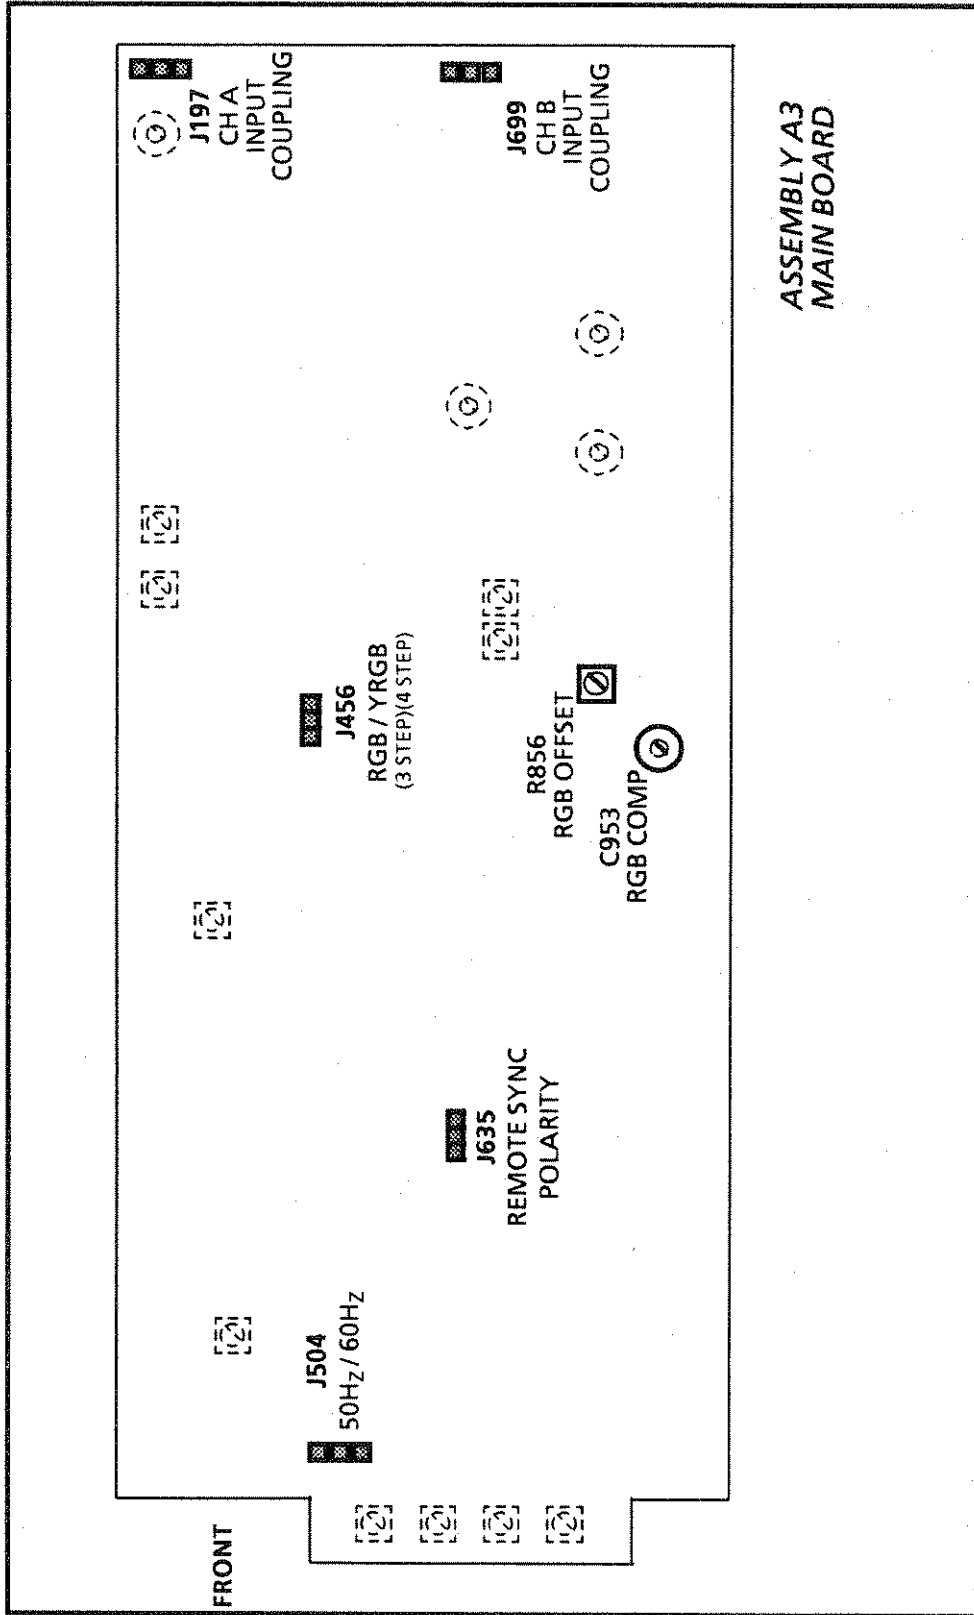

Fig. 3-3. Location of plug jumpers and RGB adjustments when the instrument is on its left side.
Not all installations are identical. In order to make operation of the 1730-Series Waveform Monitor as flexible as possible there are internal jumpers that can be changed to provide operating options. For example, it is possible to select either the 3-step or 4-step parade to accommodate RGB or YRGB displays. With the exception of the 50-60 Hz jumper, the factory preset position is indicated by a box printed on the etched circuit board. Table 3-1 details these internal jumper selections. Be sure that all operators are aware of changes, to prevent unnecessary trouble reports, if any of these jumpers are placed in the optional position. See Fig. 3-3 for location of the internal plug jumpers.
Television cameras vary in output dc level; R856 is provided to compensate for this variation in dc level. C953 is the compensation adjustment. See Fig. 3-3 for their locations.
4. ADJUST — R856 to center the RGB or YRGB signal on the 1730-Series graticule. See Fig. 3-3 for the location of R856.